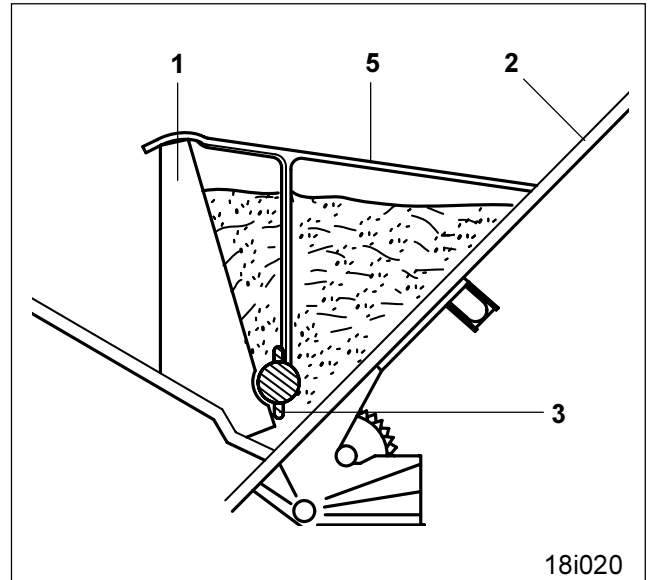
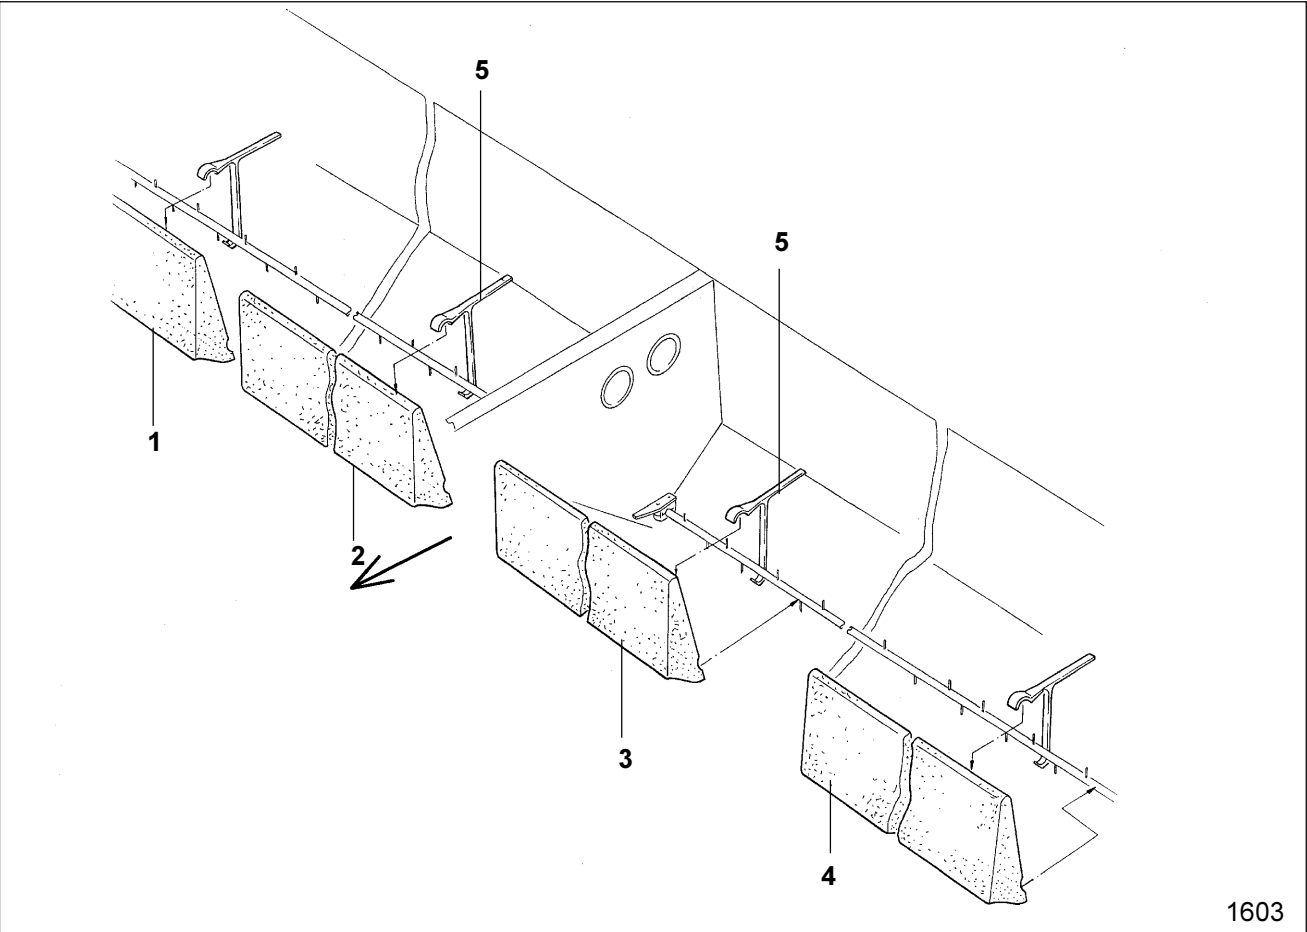

Fig. 22.1
Fig. 22.5
The rape insert (Fig. 22.1/1) reduces the seed box capacity (Fig. 22.1/2). The seed can be almost completely metered out.
- Bring the agitator fingers (Fig. 22.1/3) of the agitator shaft into vertical position.
- Affix the rape insert profiles (Fig. 22.1/1) according to table Fig. 22.4 and the fitting drawing Fig. 22.5.
- The rape insert profiles (Fig. 22.1/1) rest on the agitator shaft (Fig. 22.1/3) and must additionally be affixed by clamps (Fig. 22.1/5).